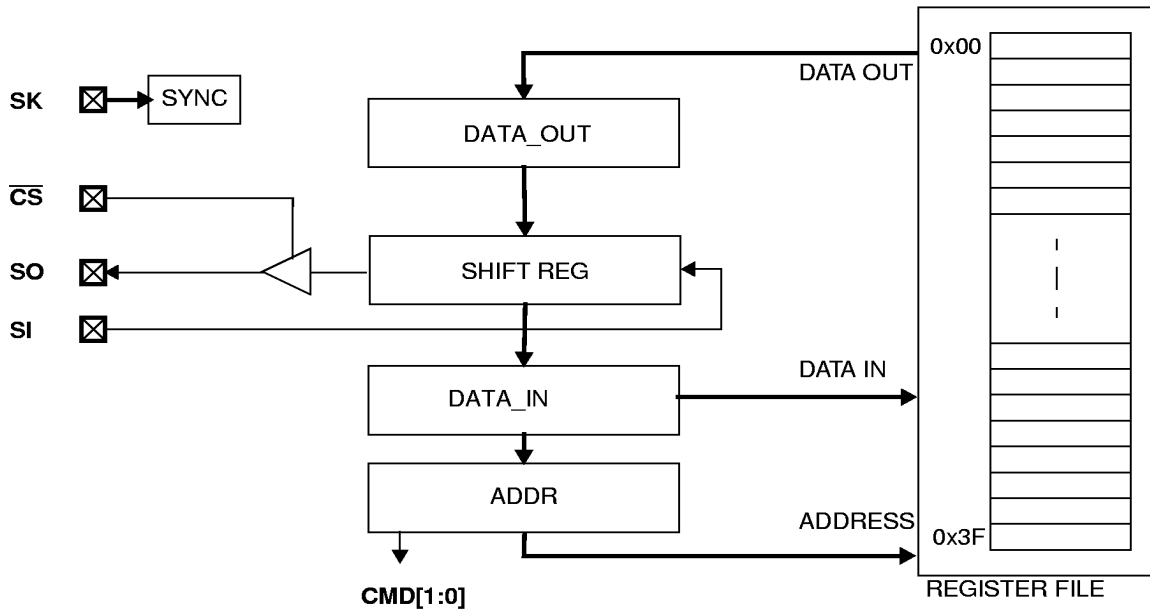

Figure 11. MICROWIRE Interface Block Diagram
pins called chip select ( $\overline{CS}$ ), serial clock (SK), serial data in (SI), and serial data out (SO), as shown in Figure 11.